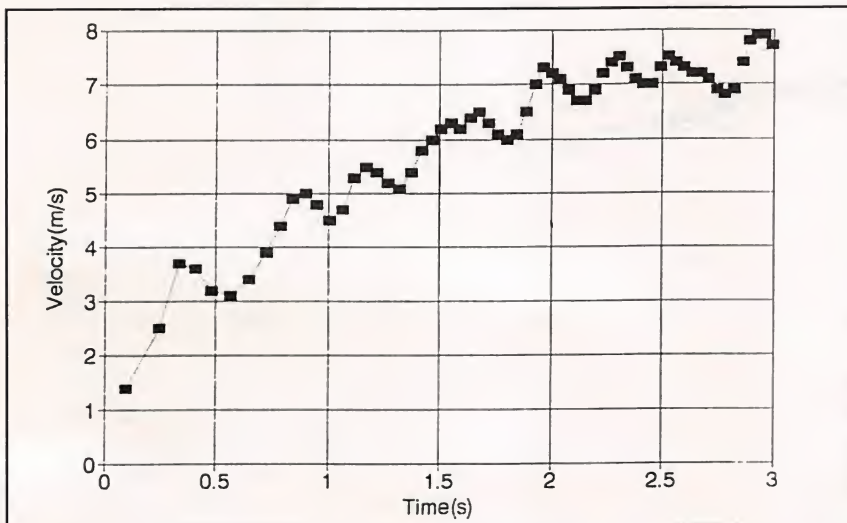

Fig. 13. This graph plots the fluctuations as a runner shifts weight from one foot to the other in velocity-versus-time format.
• **Racer Velocity Apparatus** (Fig. 12). This setup provides a means for measuring a sprinter's velocity as she comes out of the starting blocks. A 50-meter tape is attached to the racer's back near her center of gravity. Behind each footrest block is a lever switch. When the racer leaves the blocks, the PC detects an open switch and begins timing. The tape is on a reel that carries two magnets (inset). As the tape spools off, the magnets open and close a switch and the PC collects times at about 0.25-meter intervals. Dividing this interval by the time between switch closings gives the runner's velocity (Fig. 13). Hesitation as the runner moves from one foot to the other during the first 15 meters is evident.